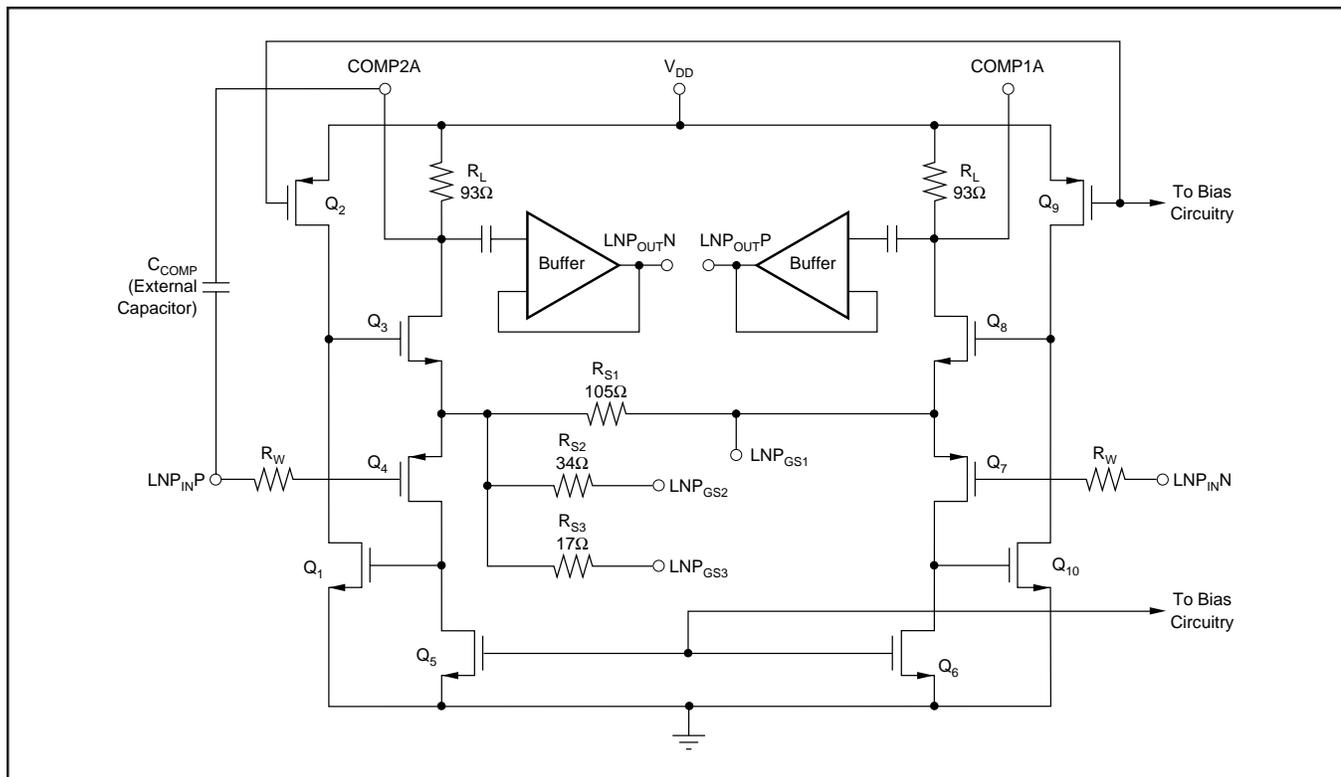

FIGURE 4. Schematic of the Low Noise Pre-amplifier (LNP).
The LNP is designed to achieve a low noise figure, especially when employing active termination. Figure 4 is a simplified schematic of the LNP, illustrating the differential input and output capability. The input stage employs low resistance local feedback to achieve stable low noise, low distortion performance with very high input impedance. Normally, low noise circuits exhibit high power consumption due to the large bias currents required in both input and output stages. The LNP uses a patented technique that combines the input and output stages such that they share the same bias current. Transistors Q₄ and Q₅ amplify the signal at the gate-source input of Q₄, the +IN side of the LNP. The signal is further amplified by the Q₁ and Q₂ stage, and then by the final Q₃ and R_L gain stage, which uses the same bias current as the input devices Q₄ and Q₅. Devices Q₆ through Q₁₀ play the same role for signals on the -IN side.
It is also possible to create other gain settings by connecting an external resistor between LNPG_{S1} on one side, and LNPG_{S2} and/or LNPG_{S3} on the other. In that case, the internal resistor values shown in Figure 4 should be combined with the external resistor to calculate the effective value of R_S for use in Equation (1). The resulting expression for external resistor value is given in Equation (2).
where R_{EXT} is the externally selected resistor value needed to achieve the desired gain setting, R_{S1} is the fixed parallel resistor in Figure 4, and R_{FIX} is the effective fixed value of the remaining internal resistors: R_{S2} , R_{S3} , or $(R_{S2} \parallel R_{S3})$ depending on the pin connections.
For greatest flexibility and lowest noise, the user may wish to shape the frequency response of the LNP. The COMP1 and COMP2 pins for each channel (pins 10 and 11 for channel A, pins 26 and 27 for channel B) correspond to the drains of Q_3 and Q_8 in Figure 4. A capacitor placed between these pins will create a single-pole low-pass response, in which the effective R of the RC time constant is approximately 186Ω .